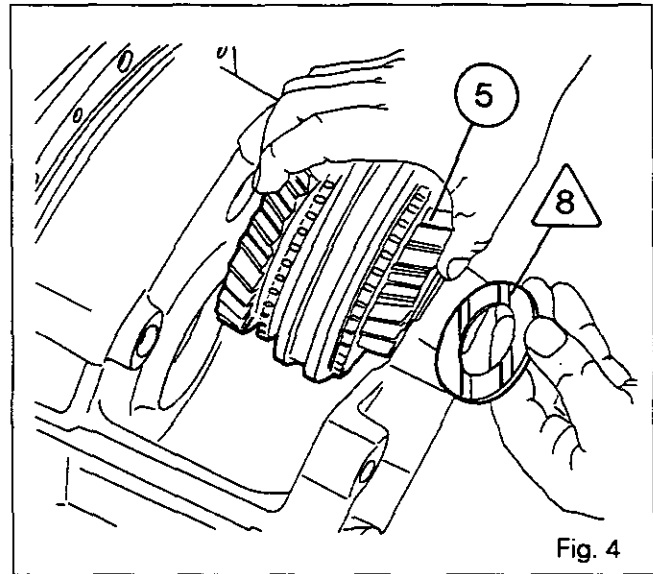

Fig. 4
26. Assemble gear (5) and the bush /7\, with the shoulder facing the synchromesh. Fit needle roller bearing (6), synchro cone (4), synchro ring (3), the synchromesh, synchro ring (21), synchro cone (22), gear (23), and needle roller bearing (20).
Note: Place the friction washer /8\ with the lubricating channels towards gear (5) (Fig. 4).